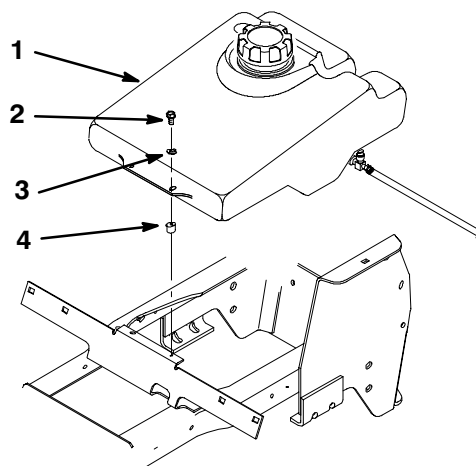

Figure 2
3. Remove the bolts attaching the rear fender to frame (Fig.2).
2. Remove two bolts, washers, and spacers fastened to frame and gas tank (Fig.2).
1. To the right of the steering wheel, remove the existing panel on dash (Fig. 2).